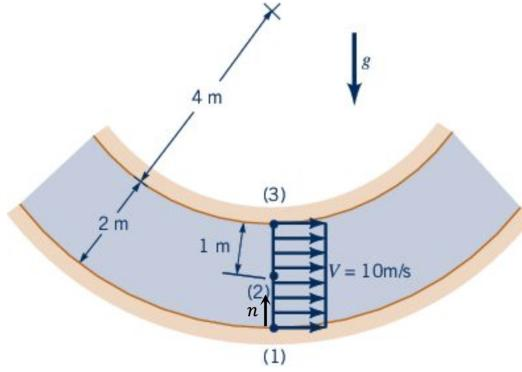

Figure 11: see problem 6
**Problem:** Water flows around the vertical two-dimensional bend with circular streamlines and constant velocity as shown in Figure 11. If the gauge pressure is 40 kPa at point (1), determine the pressure at points (2) and (3). Assume that the velocity profile is uniform as indicated.
where the streamline normal direction  $\vec{n}$  is indicated in Figure 11. At point (1) we find  $\vec{n}$  aligned with the  $z$ -direction, i.e.  $dz/dn = 1$ . The velocity is constant  $v = 10 \text{ m/s}$  and the radius is  $R(n) = R_1 - n$ , where  $R_1 = 6 \text{ m}$  is the radius at (1). Rearranging the equation for the pressure change, we find